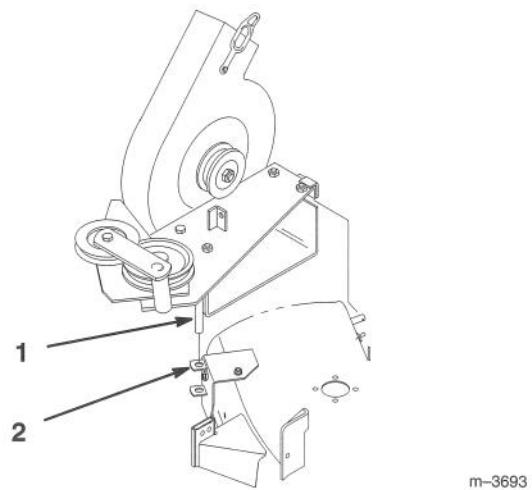

Figure 31
2. Remove the blower by lifting the pivot pin out of the pivot support (Fig. 31).